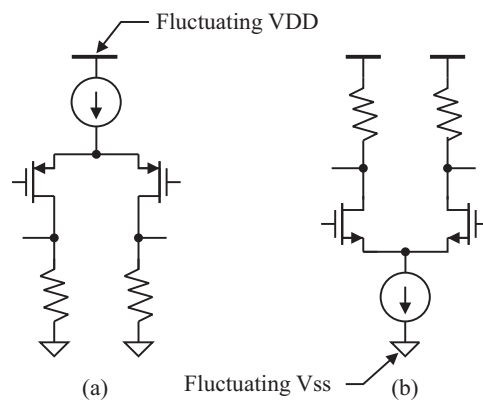

Figure 17: Differential configurations.
- ▷ High power noise rejection  $\rightarrow$  difficult to design. If  $V_{DD}$  fluctuation is of a critical concern, Fig.17(a) should be used. The head biasing current source behaves as an OPEN-CIRCUIT for  $V_{DD}$  switching noise and isolates the circuit from  $V_{DD}$  rail.
- ▷ If  $V_{ss}$  fluctuation is of a critical concern, Fig.17(b) should be used. The tail biasing current source behaves as an OPEN-CIRCUIT for  $V_{ss}$  switching noise and isolates the circuit from  $V_{ss}$  rail.